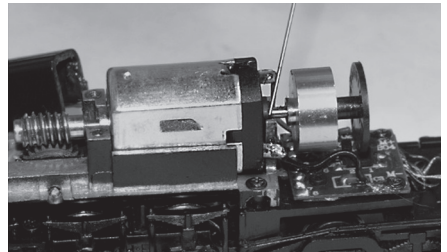

Figure 19 - Lubricate the rear shaft
4. Place a *small* drop of lubricant on the rear shaft where the bearing is located (Figure 19).